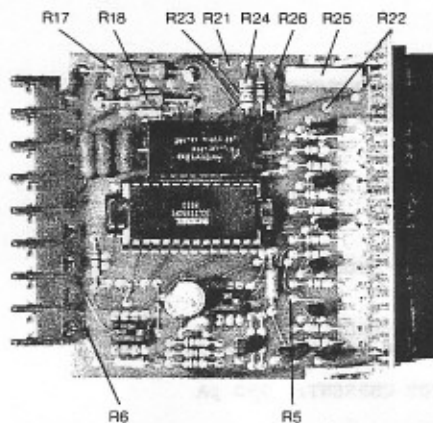

Figure 4. Component Location
Increasing the value of R6, dims the number display. See figure 4 for component location. As shipped from the factory, R6 is a jumper. Removing the jumper blanks the number display.
2. Observe resistor values for R17 and R18 and compare to figure 4 and table I below. Install resistors of values specified in table I to obtain desired range.